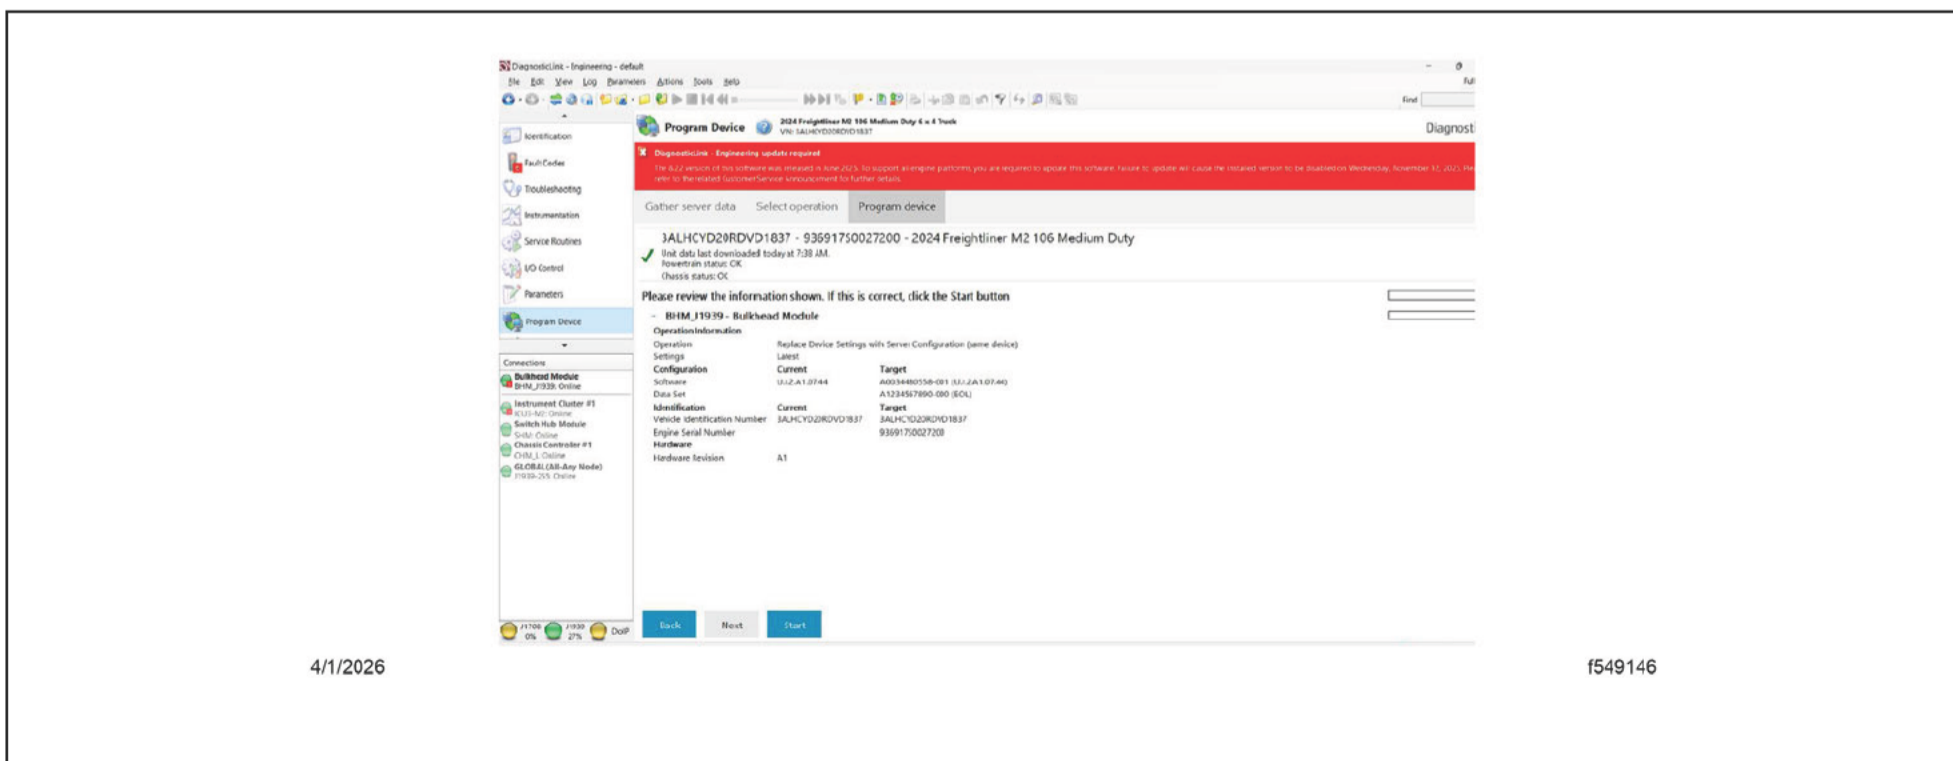

Fig. 15, Reviewing Displayed Data
23. Review all displayed data and select 'Start' once ready to begin flashing. See Fig. 15.